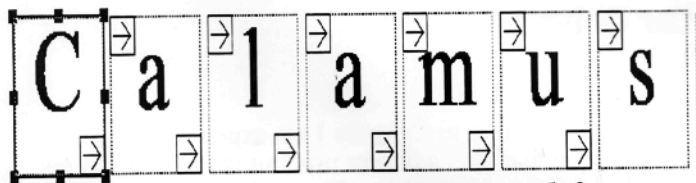

Fig 7. There should be one letter in each frame.
**STEP 7.** Hopefully you will now have one letter in each frame (see fig 7 below).